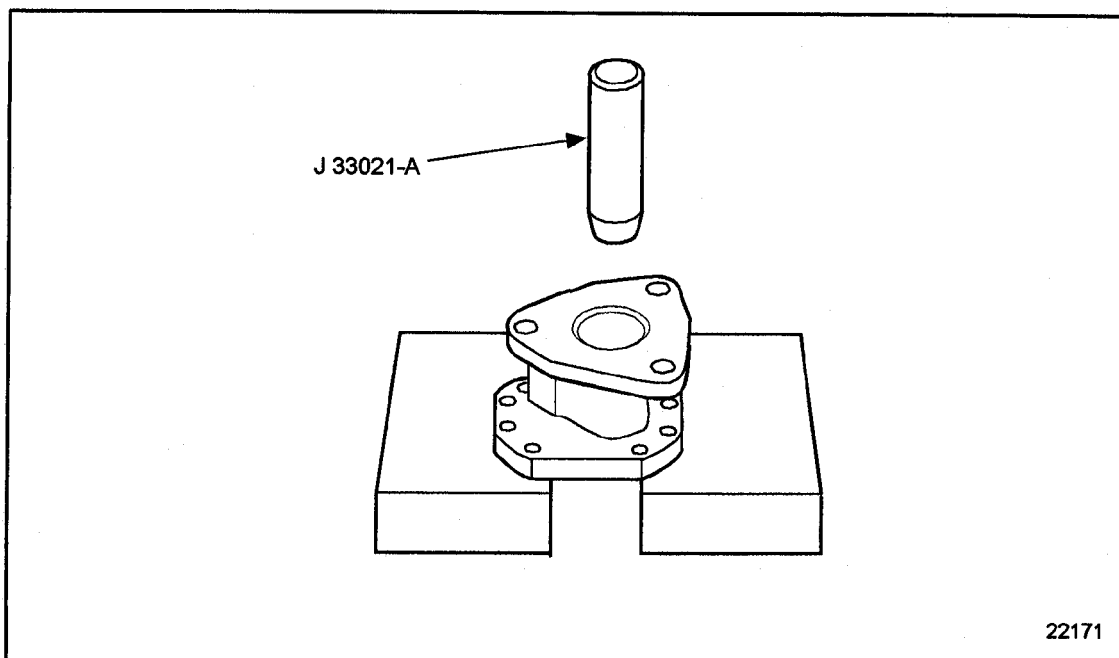

Figure 2-52 Seal Protector Installation
8. Install seal protector, J 33021-A, on drive shaft and hub assembly and install through seal. Remove seal protector. See Figure 2-52.